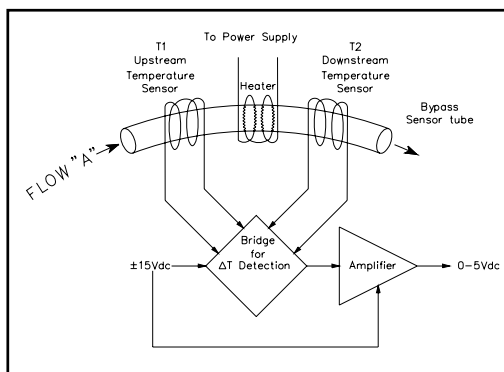

Figure 3-1 Flow Sensor Operational Diagram
The thermal mass flow sensing technique used in the 5850TR works as follows: A precision power supply provides a constant power heat input (P) at the heater, which is located at the midpoint of the sensor tube. Refer to figure 3-1. At zero, or no flow conditions the heat reaching each temperature sensor is equal. Therefore the temperatures T1 and T2 are equal. When gas flows through the tube the upstream sensor is cooled and the downstream sensor is heated, producing a temperature difference. The temperature difference T2-T1, is directly proportional to the gas mass flow. The equation is: $\Delta T = A * P * Cp * m$